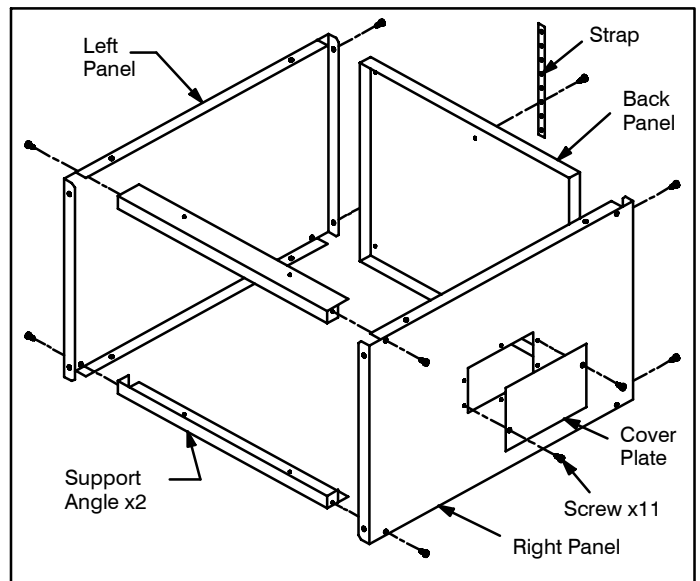

Figure 1 – Assembly of Filter Box
1. Assemble left, right and back panels with the four (4) screws provided as shown in Figure 1. Attach the support angles to the left and right panels with four (4) screws as shown in Figure 1.
2. Attach the tie down strap to the back panel of the assembled filter box with one (1) screw as shown in Figure 1.
3. If a Blend Air system is to be used, proceed to No. 4. Otherwise, attach the cover plate to the right side of the filter box using two (2) screws provided as shown in Figure 1.